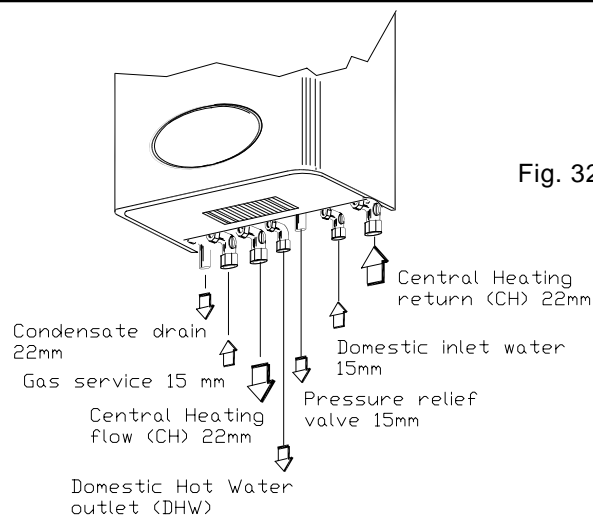

Fig. 32
Remove plastic caps from boiler connection and fit valves as per fig. 32 using washers provided.
## 5.9 GAS CONNECTION (fig. 32).
## 5.10 CENTRAL HEATING CONNECTION (fig. 32).
## 5.11 DOMESTIC HOT WATER (fig. 32)
**5.12.2** The condensate drain connection is on the left of Gas service cock (Fig.32).